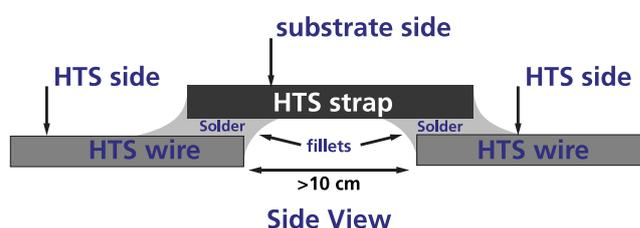

Figure 6. Strap Splice Construction
The second type of field joint for Amperium® wire is a double overlap joint or strap splice, as shown in Figure 6. This geometry maintains the HTS orientation in the joined wires by utilizing a short piece of wire to bridge the two wire lengths at the joint. The strap wire is simply a short section of the same type of wire being joined and is soldered with its low resistance side contacting the low-resistance sides of the two longer lengths (i.e., HTS-to-HTS orientation for all joints). For the best mechanical performance, it is recommended that the gap between the two wires beneath the strap be at least 10 cm. As a guide for expected electrical performance, typical resistance values of a variety of symmetrical, 10 cm gap strap splices are provided below in Table 5.
- i. Ensure that end of each of the tape ends is filleted by solder (as shown in Figure 6) to help prevent separation during bending operations.